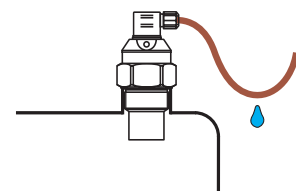

Fig. 9: Prevention to avoid intrusion of humidity
- If possible, insert the cable from above and let a draining loop in order to avoid intrusion of humidity (Fig. 9).